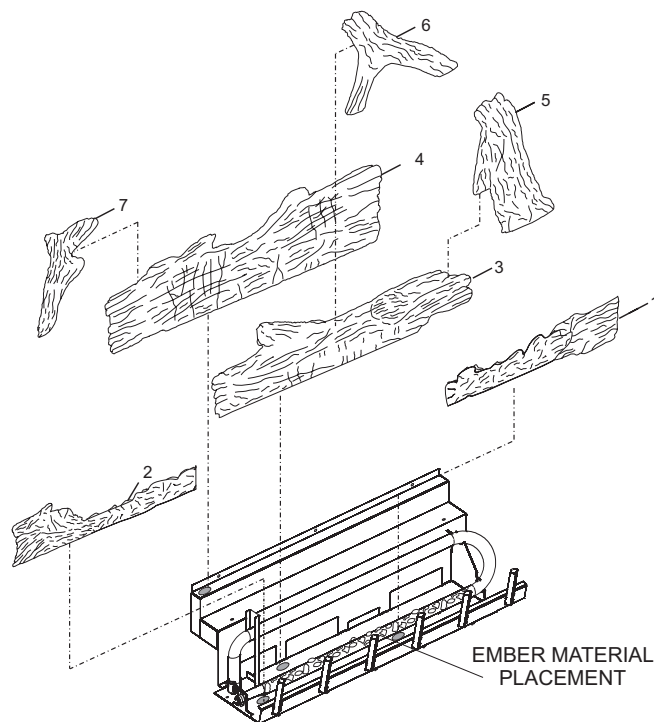

Figure 59
The positioning of logs is critical to safe and clean operation of this fireplace. Sooting and other problems may result if the logs are not properly and firmly positioned in the fireplace. Please refer to **Figure 58** and **Figure 59** and corresponding WARNING when completing following log placement steps.
7. Place right "Y" branch (#5) along side of middle log as shown in Figure 59. Insert the pin on right "Y" branch (#5) into right recess on rear log (#4).
11. After all logs are properly positioned, place small "dime" size pieces of Rockwool lightly across the front burner tube ports. Place the ember material (Rockwool pieces) side by side. Do not stack more than one layer of embers across the burner ports. See Figure 59.
Attention: Do not use Figure 58 or Figure 59 to order logs. Refer to parts list on pages 50 - 51 and parts view on page 52 to order logs and/or ember material for your appropriate fireplace model.